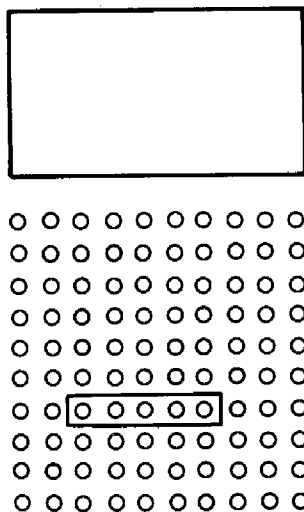
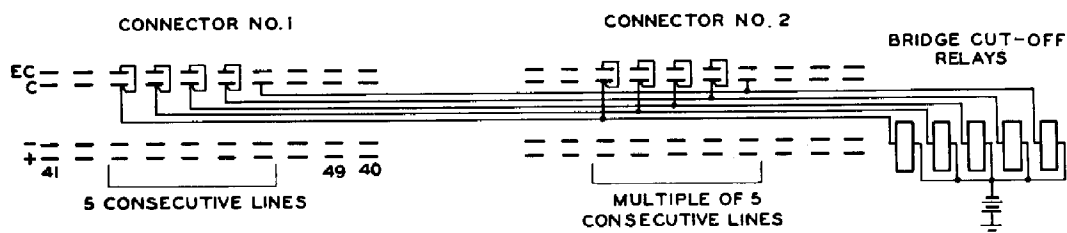
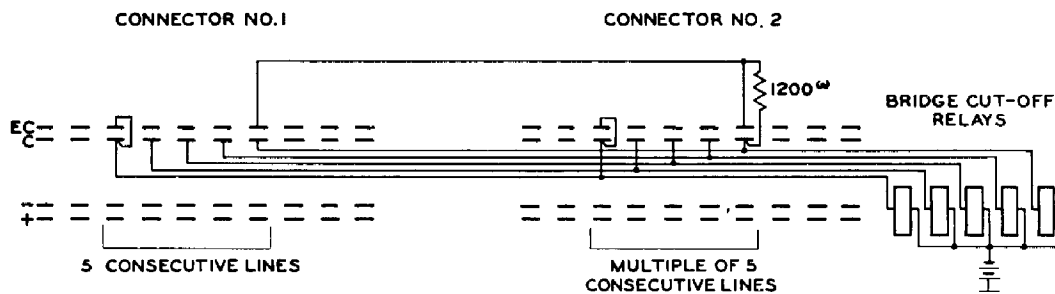
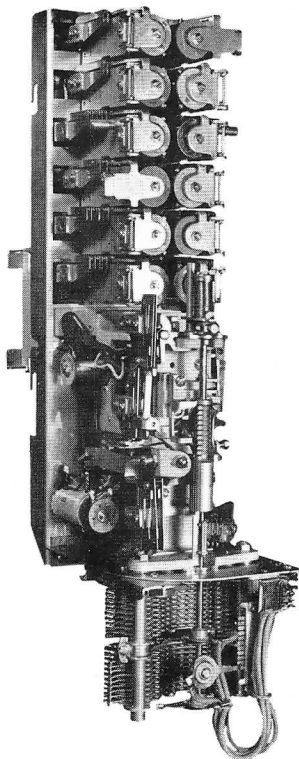

Figure 5. Five consecutive line numbers (43, 44, 45, 46, and 47) in the banks of a connector.
Figure 6. The most common pattern for 100-line connectors. Leads C and EC of all lines in the group, except the last, are strapped.
Figure 9. A pattern for 100-line connectors with night-line service and for level-hunting connectors.
Figure 14. Typical level-hunting connector.
Inset: How radio-type 1200Ω 1-watt resistors (for figures 9, 14, 20, etc.), supported by their leads, mount on the bank terminal block.
Figure 4. Right-hand end of a shelf of trunk-hunting connectors for night-line service. The local connectors at the left have 11 relays each, as mentioned on page 8. The connectors at the center, with 13 relays each, are combination local-and-toll trunk-hunting connectors. At the right is the bank terminal block, at which all strapping (figure 9 in this case) is done.
3.2 Bank-marking patterns. A P.B.X. group bank-marking circuit pattern developed in 1918 was so well conceived that it continues in use today in many Strowger trunk-hunting connectors. A fourth lead, the "extra control" lead, abbreviated EC, is required for each line in the trunk-hunting connector banks. Control lead C and extra control lead EC are strapped on all lines in a P.B.X. trunk group, except the last line in the group. For the five lines in figure 5, this is shown schematically in figure 6. The task of strapping leads C and EC is actually simpler than the schematic of figure 6 suggests. Both leads are multiplied throughout all banks on a shelf, and strapping is done at the shelf bank terminal block (figure 4) only once for each line.
The trunk-hunting feature of these connectors usually requires two additional relays in each connector: if the regular connectors in the central office have eight relays, the trunk-hunting connectors will have ten relays. If an line (such as 43, first in the group in figure 5 is dialed and is idle, the connector seizes the line in the usual way, namely by grounding lead C to operate the cut-off relay of the called line. Because leads C and EC of line 43 are strapped, in grounding lead C the connector grounds also lead EC at every bank multiple appearance of line 43. If, now, another subscriber dials line 43, during dialing of the last digit 3, the second connector tests lead C of line 43 and finds it busy. Lead EC being grounded, relay-interrupted rotary stepping takes place. During this automatic rotary stepping, the connector, seeking an idle line, looks for absence of ground on lead C, and each grounded contact EC causes another rotary step to be taken. If all lines in the group are busy, the wipers step to the last line in the group. There lead EC is open so no further steps are taken, and ground on lead C causes busy tone to be returned to the calling party.
people he can be reached during the evening on 44. If meanwhile he calls out, busying 44, a call to 44 finds the line busy, the connector hunts past 44, and 45 will be rung. The station on line 45 probably is in another part of the building and goes unanswered, or is answered by the shipping clerk who must ask the caller (who may be at a paystation!) to hang up and call again later. Inasmuch as night calls are infrequent, little difficulty arises, and for years most operating telephone companies have found the system of figure 6 entirely satisfactory.
The limited suitability of figure 6 to night service led to the introduction in 1932 of the bank-marking circuit pattern of figure 9. This, too, uses a fourth bank contact for extra control lead EC, for each P.B.X. trunk line. The first line in a trunk group has leads C and EC strapped.* Subsequent lines in the group have lead EC open, except the last line in the group which has a 1,200Ω resistor permanently connected between leads C and EC.
The bank wiring of figure 9 usually requires three additional relays in the connector: if the regular connectors in the central office have eight relays, the trunk-hunting connectors will have eleven relays. If any line (such as 43, first in the group in figure 5) is dialed, and is idle, the connector seizes the line in the usual way, namely by grounding lead C to operate the cut-off relay of the called line. If now another subscriber dials line 43, during dialing of the last digit, 3, the second connector tests lead C of line 43, finds it busy, and then tests lead EC. Lead EC being grounded, relay-interrupted rotary stepping takes place. During this automatic rotary stepping, the connector operates on the battery-searching principle, looking for negative battery thru the unoperated cut-off relay of an idle line. If all lines in the group are busy, the wipers step to the last line in the group. There, ground (from lead C) thru high resistance (1,200 Ω) marks lead EC to prevent further steps, and the ground on lead C causes busy tone to be returned to the calling party.
Comparing figure 6 and figure 9, we notice that in figure 6 lines in the middle of a group are marked the same as the first line of a group,
and cause hunting, whereas in figure 9 lines in the middle of a group lack marking, just as do lines not in a group, and cannot cause hunting. Thus, if any line in the group except the first is dialed, the connector wipers have no opportunity to come to rest on the first line, and the connector does not set itself for hunting. If a caller dials directly any line (other than the first) in a group, he will either ring the line number he dialed, or will hear busy tone; the connector will not attempt to complete his call over another line in the group.
Figure 20 is the circuit of a typical trunk-hunting connector with a chart illustrating the sequence of operation of the relays when a call is made to the first or "pilot" number. The time chart illustrates automatic trunk hunting when the first 3 lines of a group are busy. Figure 9 shows the bank-marking arrangement and the wiring of a level containing a trunk-hunting group of this connector. When the pilot number is dialed and found busy, the connector will hunt until it connects to an idle line. When a number of the group other than the pilot number is dialed and found busy, the connector does not hunt but returns busy tone to the calling party. Thus any number other than the pilot number may serve as a night number.
A typical modern level-hunting connector is shown in figure 14. It can reach from one single line to a group of one hundred lines. A calling subscriber dials its wipers to the directory 'pilot' number (the first terminal) of a called P.B.X. subscriber. If that first line is busy and bank markings indicate the called subscriber has additional lines, the level-hunting connector hunts across them all until an idle circuit is found.
Level-hunting connectors are only slightly more expensive than the more conventional single-level trunk-hunting connectors. Ordinary single-level trunk-hunting connectors with night service using bank markings per figure 9 require, as previously stated, eleven relays; as seen in figure 14, ordinary level-hunting connectors require twelve relays -- only one relay more.
Figure 16. Trunk-hunting automatic rotary and vertical stepping-circuit elements of the level-hunting connector of figure 14. In the upper right-hand corner of this figure are shown levels 5 and 6 of the bank contacts of figure 15. The wipers are shown on bank contact 50, about to take an eleventh rotary step on level 5 and then to be advanced to bank contact 61.
In figure 16, the level-hunting connector of figure 14 has been dialed to 51, the pilot number of the 37-line group shown in figure 15. Vertical wiper VW is thus disengaged from vertical bank VB. Lines 51 thru 63 are busy. Ground on lead EC of line 51 has set the connector for relay-interrupted rotary stepping, battery searching, hunting negative battery through the cut-off relay of the first idle line, 64. Rotary-interrupter relay RI keeps operating, closing the circuit of rotary magnet RM. At each busy contact C reached, ground prevents battery-searching relay BS operating. Relay RI re-operates, etc., and thus we step across 51, 52, 53, 54, 55, 56, 57, 58, and 59 to 50.